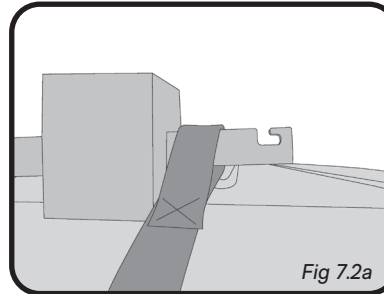

Fig 7.2a
2. Attach the non-adjustable ends of the cargo net to the hooks on each end of the width adjusters on the front of the frame. Attach the loop by first sliding it past the hook and then feeding it into the hook. (Fig 7.2a, b, & c)
4. Attach the adjustable ends of the cargo net to the rear width adjusters (one to each end) by sliding the loop past the hook then feeding it into the hook. (Fig 7.2a, b, & c)